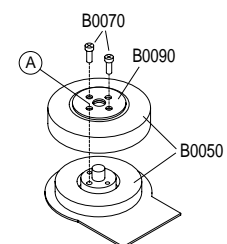

Fig. 8
- When fitting the rotor, the recess in the tape drum assembly must be visible through hole (A) of the rotor (Fig. 8).